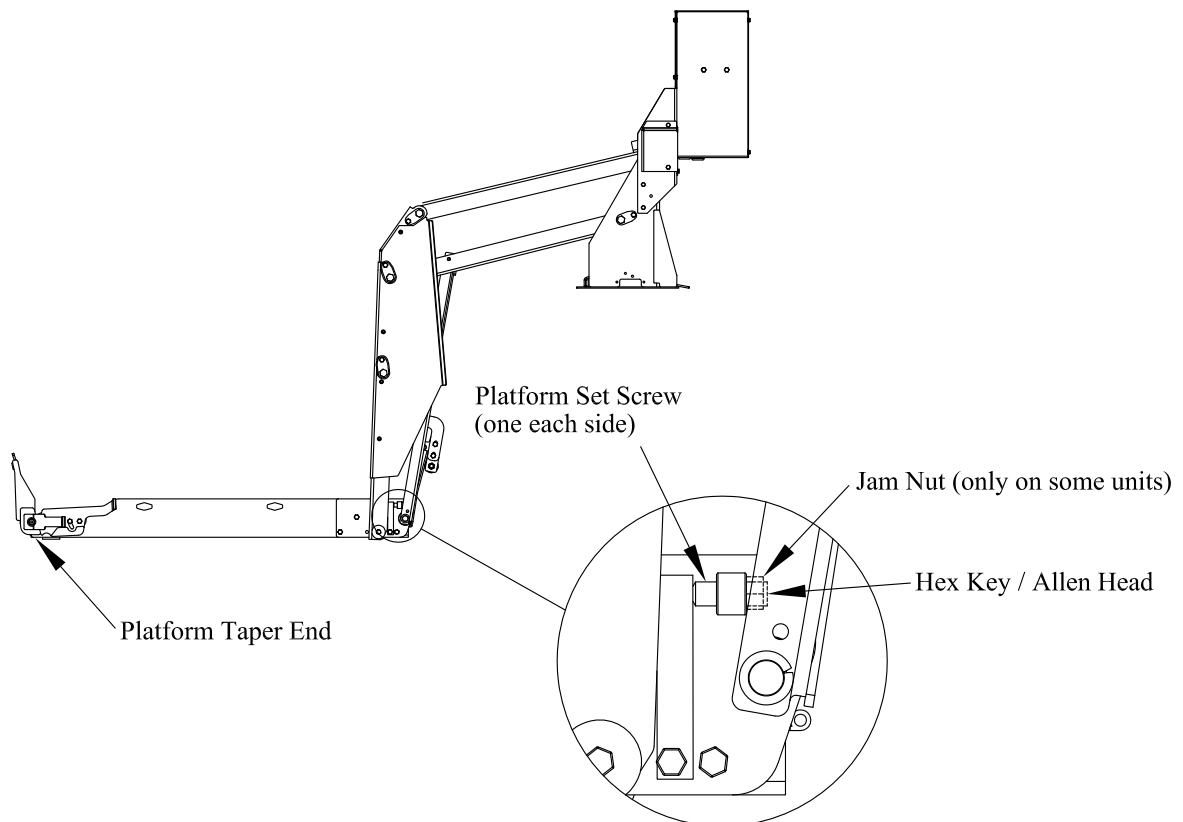

Figure 1: Platform Hinge End.
9. **Adjust** the platform set screws until the platform taper end just rests on the ground (Figure 1).